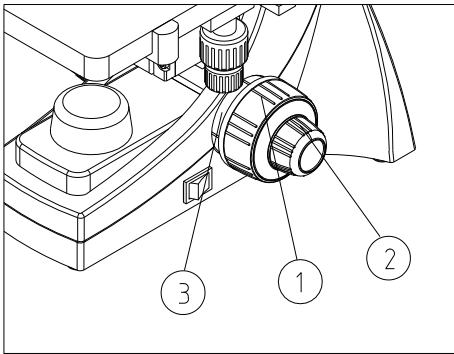

Fig. 16
The tension of the coarse focusing knob has already been factory adjusted. If the handle is very heavy when focusing or the specimen leaves the focus plane after focusing or the stage lowers by itself, adjust the tension adjustment collar ③ (Fig. 16).
Using your left eye only and the 10X objective, focus your specimen by adjusting the coarse adjustment knob ① (Fig. 16). When the image is in view, refine the image to its sharpest focus by turning the fine adjustment knob ② (Fig. 16). Rotate the diopter collar to obtain the sharpest focus.